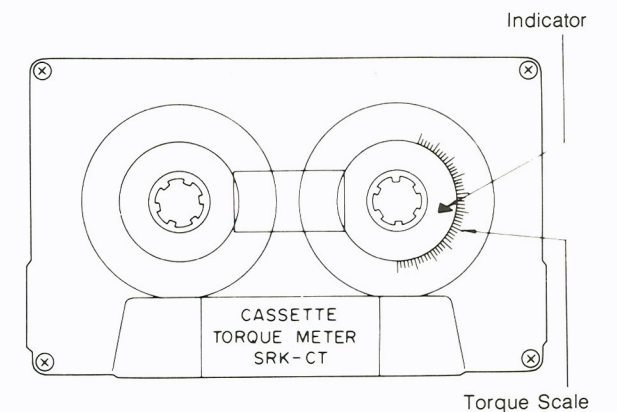

FIG. 19
- Read "▶" mark of indicator on take-up side, as shown in Fig. 19.